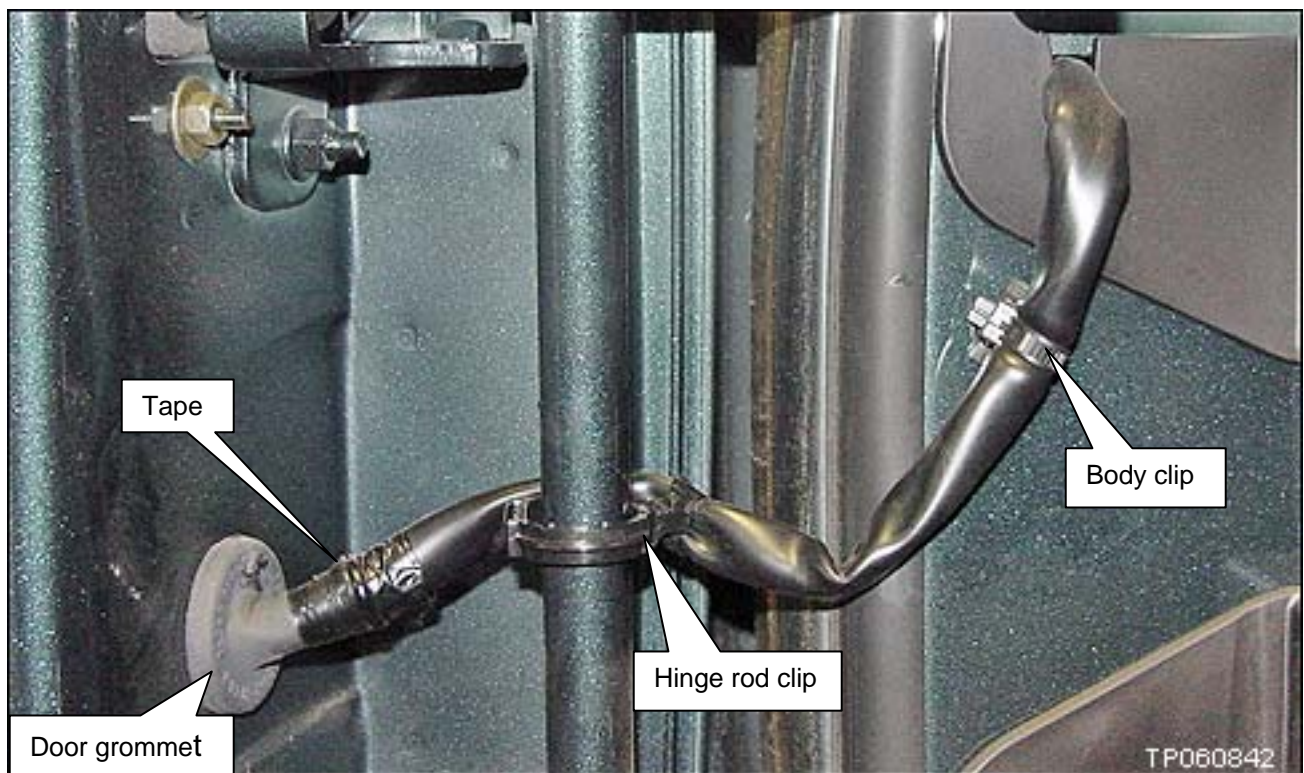

Figure B1
1. Remove the body clip from the body (see Figure B1).
2. Remove the hinge rod clip from the hinge rod (see Figure B1).
4. Remove the tape that is holding the door grommet to the vinyl tube (see Figure B1).